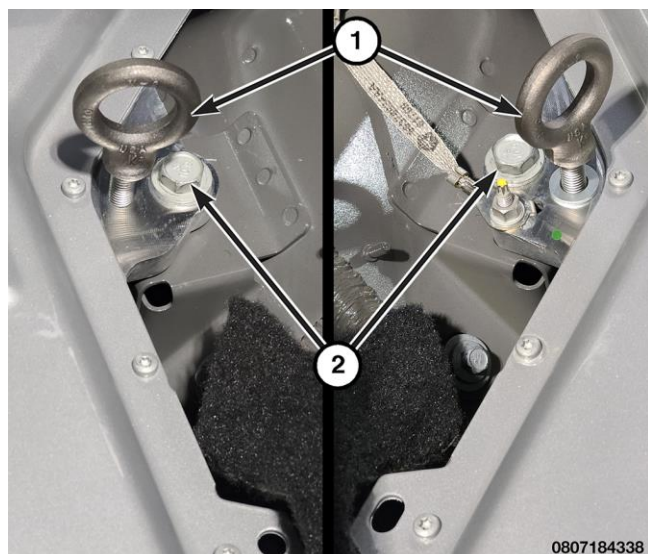

Figure 24 – Eyebolt Installation
52. Thread the other two Eyebolt, 10mm 2035203080 (1) into the threaded holes next to the HV battery pack mounting bolt holes (2) on the rear side of the HV battery pack (Figure 24).